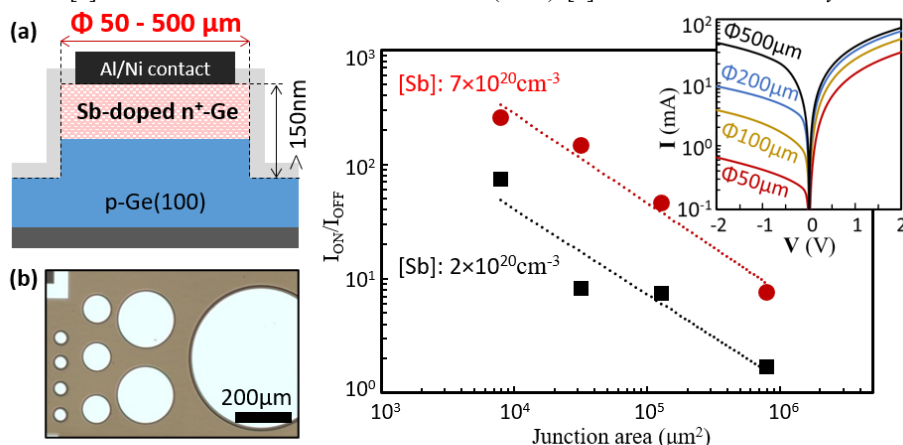

Fig 1. (a) Schematic diagram of the sample. (b) Top-view of the Nomarski microscopic image.
An epitaxial Ge layer (100 nm) with high Sb doping ([Sb]: 2×10^{20} and $7 \times 10^{20} \text{ cm}^{-3}$, measured by SIMS) was deposited on p-Ge (100) substrate using an optimized MBE condition. Then, the samples are patterned using photolithography, followed by dry etching in CF₄ plasma to form vertical n⁺/p junction structure shown in Fig.1(a). Sizes and shapes of the fabricated diodes are shown in Fig.1(b).